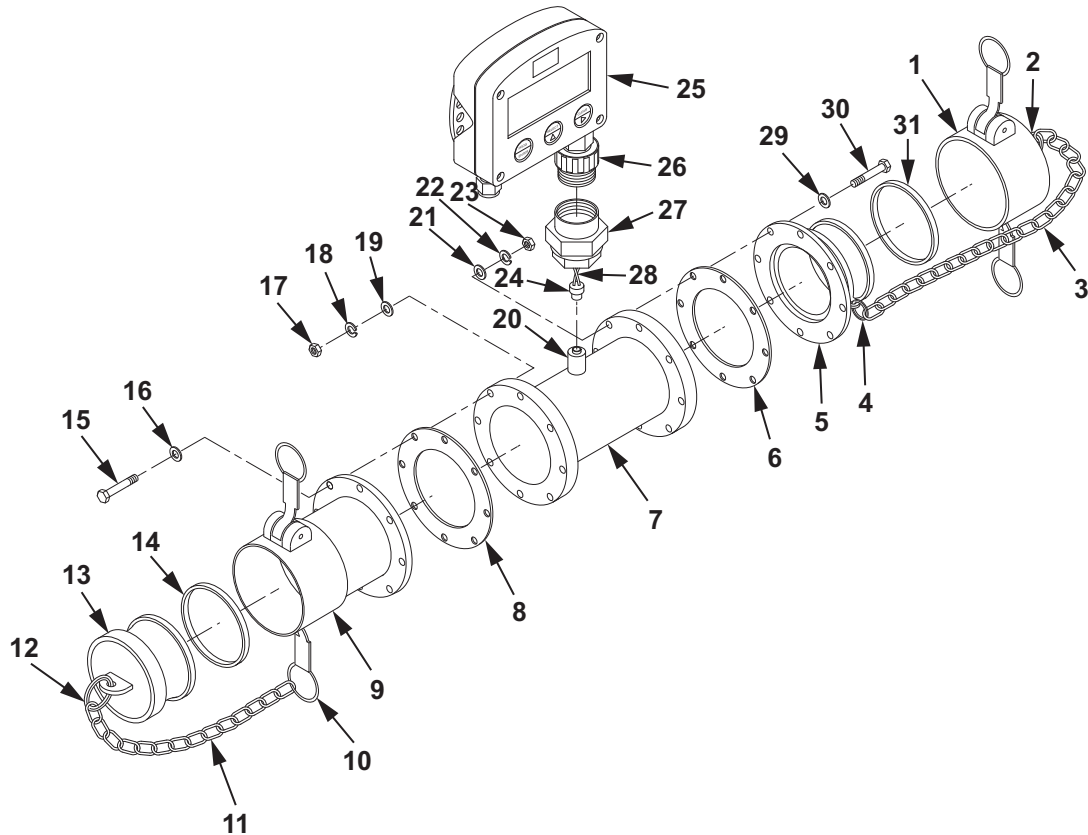
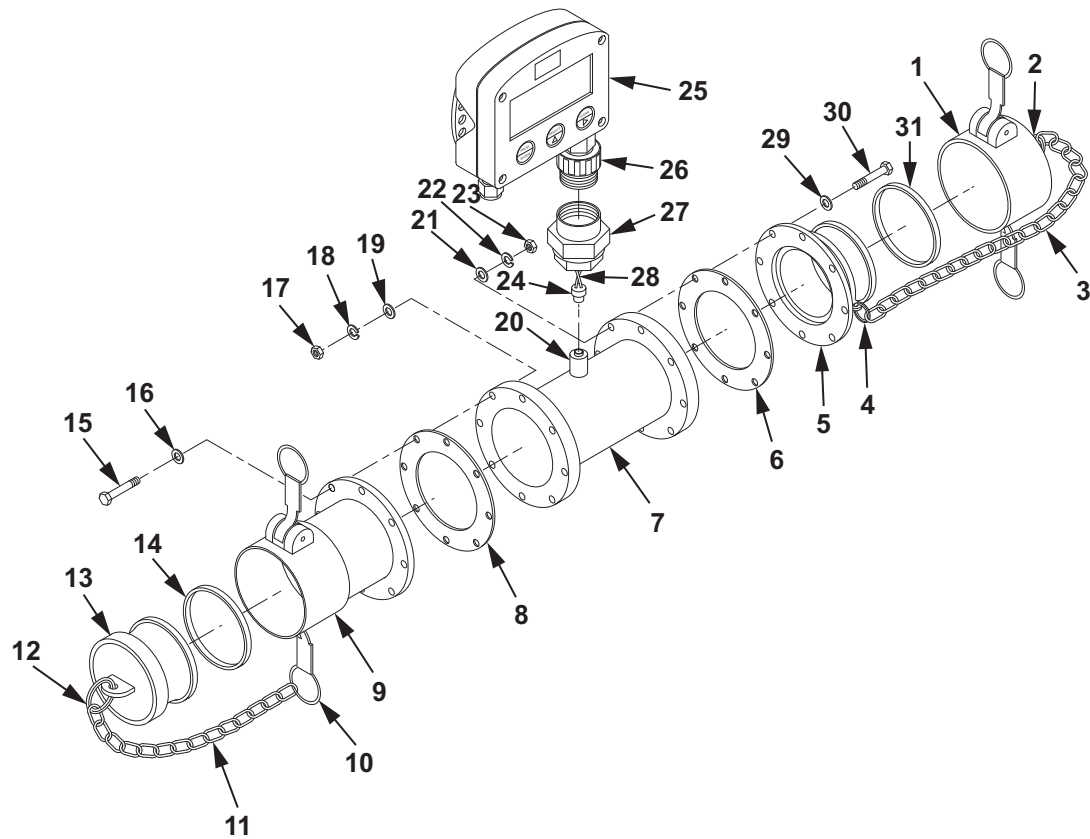

Figure 1. Tank Output Volume Meter Disassembly.
Figure 3. Tank Output Volume Meter Disassembly.
5. Remove split ring (Figure 1, Item 12) from quick disconnect dust plug (Figure 1, Item 13).
6. Remove split ring (Figure 1, Item 12) from chain (Figure 1, Item 11).
7. Remove split ring (Figure 1, Item 10) from female coupling (Figure 1, Item 9).
8. Remove split ring (Figure 1, Item 10) from chain (Figure 1, Item 11).
9. Remove quick disconnect dust cap (Figure 1, Item 1) and gasket (Figure 1, Item 31) from male coupling (Figure 1, Item 5).
10. Remove quick disconnect dust plug (Figure 1, Item 13) and gasket (Figure 1, Item 14) from female coupling (Figure 1, Item 9).
11. Discard gaskets (Figure 1, Item 31, 14).
1. While keeping the tank volume meter monitor (Figure 1, Item 25) stationary, loosen union (Figure 1, Item 27) by turning the nut (Figure 1, Item 26) counterclockwise in the direction of the arrow.
2. Raise the tank volume meter monitor (Figure 1, Item 25) slightly to allow access to the wire harness (Figure 1, Item 28).
3. Disconnect wire harness (Figure 1, Item 28) from magnetic pickup (Figure 1, Item 20) by pulling up on the white nylon connector (Figure 1, Item 24).
4. Remove tank volume meter monitor (Figure 1, Item 25).
1. Rotate magnetic pickup (Figure 1, Item 20) in a counterclockwise direction.
2. Remove magnetic pickup (Figure 1, Item 20) from flowmeter (Figure 1, Item 7).
1. Remove eight nuts (Figure 1, Item 23), lockwashers (Figure 1, Item 22), washers (Figure 1, Item 21), screws (Figure 1, Item 30) and washers (Figure 1, Item 29) from male coupling (Figure 1, Item 5) and flowmeter (Figure 1, Item 7).
2. Remove male coupling (Figure 1, Item 5) and gasket (Figure 1, Item 6) from flowmeter (Figure 1, Item 7).
3. Discard gasket (Figure 1, Item 6) and lockwashers (Figure 1, Item 22).
4. Remove eight nuts (Figure 1, Item 17), lockwashers (Figure 1, Item 18), washers (Figure 1, Item 19), screws (Figure 1, Item 15) and washers (Figure 1, Item 16) from female coupling (Figure 1, Item 9) and flowmeter (Figure 1, Item 7).
5. Remove female coupling (Figure 1, Item 9) and gasket (Figure 1, Item 8) from flowmeter (Figure 1, Item 7).
6. Discard gasket (Figure 1, Item 8) and lockwashers (Figure 1, Item 18).
1. Install new gasket (Figure 3, Item 8) and female coupling (Figure 3, Item 9) on flowmeter (Figure 3, Item 7).
2. Install eight washers (Figure 3, Item 16), screws (Figure 3, Item 15), washers (Figure 3, Item 19), new lockwashers (Figure 3, Item 18) and nuts (Figure 3, Item 17) in female coupling (Figure 3, Item 9) and flowmeter (Figure 3, Item 7). Hand tighten eight nuts (Figure 3, Item 17).
3. Using torque wrench and adapter, torque eight nuts (Figure 3, Item 17) to 90–110 ft lb (122–149 N•m).
4. Install new gasket (Figure 3, Item 6) and male coupling (Figure 3, Item 5) on flowmeter (Figure 3, Item 7).
5. Install eight washers (Figure 3, Item 29), screws (Figure 3, Item 30), washers (Figure 3, Item 21), new lockwashers (Figure 3, Item 22) and nuts (Figure 3, Item 23) in male coupling (Figure 3, Item 5) and flowmeter (Figure 3, Item 7). Hand tighten eight nuts (Figure 3, Item 23).
6. Using torque wrench and adapter, torque eight nuts (Figure 3, Item 23) to 90–110 ft lb (122–149 N•m).
1. Position magnetic pickup (Figure 3, Item 20) into flowmeter (Figure 3, Item 7).
2. Hand tighten magnetic pickup (Figure 3, Item 20) by turning in a clockwise direction.
1. Align the tank volume meter monitor (Figure 3, Item 25) over magnetic pickup (Figure 3, Item 20).
2. Connect wire harness (Figure 3, Item 28) to magnetic pickup (Figure 3, Item 20) by pushing down on the white nylon connector (Figure 3, Item 24).
3. Position the tank volume meter monitor (Figure 3, Item 25) on the magnetic pickup (Figure 3, Item 20).